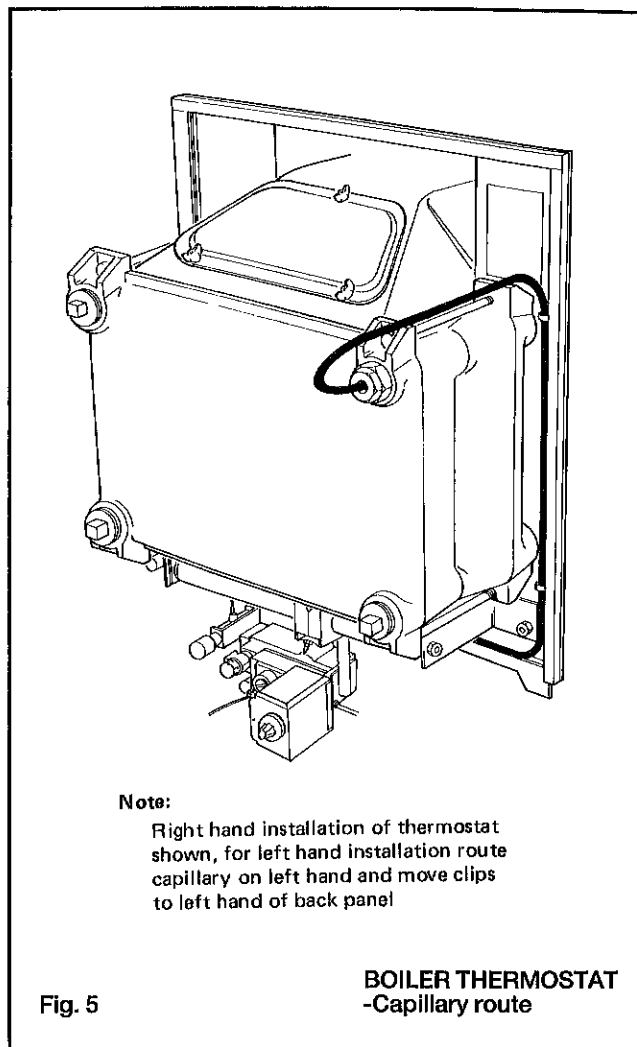

Fig. 5
6. Route the capillary tube between the backplate and the clamp and secure it with the spring clips - Refer Fig. 5.